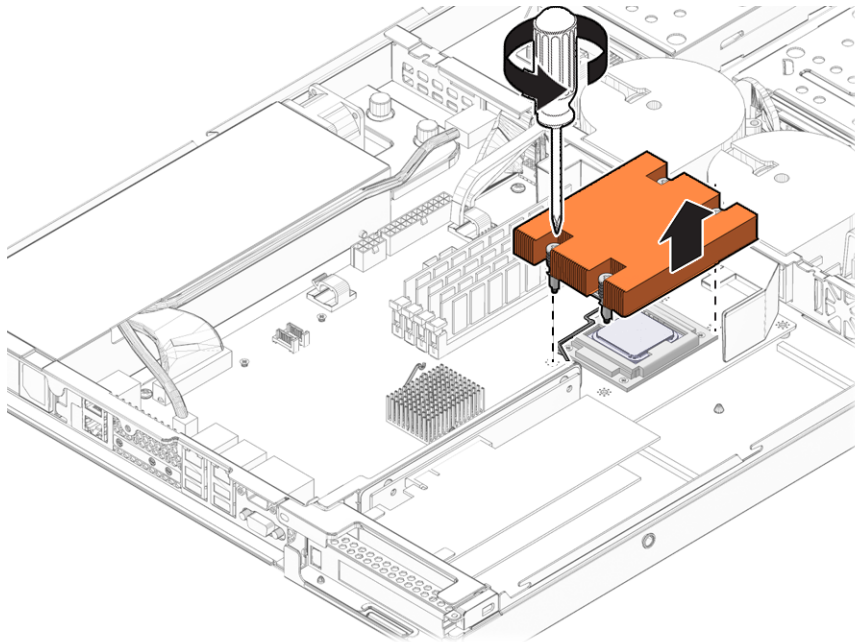

FIGURE 4-32 Removing the Heatsink
3. Unfasten the four screws securing the heatsink to the board (see FIGURE 4-32).